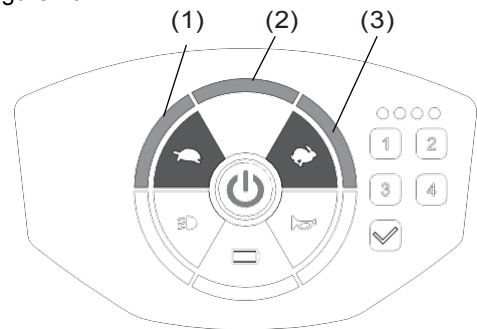

Figure 11
- There are 3 different speeds of adjustment fastest 3>2>1 slowest. (Figure 11)